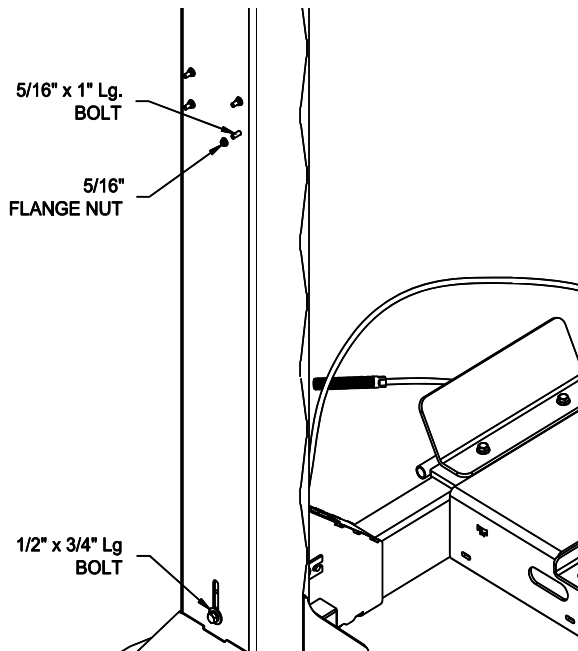

Fig 13 – Power Unit Mounting Bolts
- 26) **POWER COLUMN ONLY** – Thread the front power side locking ladder jam nut (located under the column top plate) down approximately 1/2". Remove 1/2" x 3/4" lg. lock ladder securing bolt from bottom of column and rock the ladder to one side to allow access to power unit mounting holes and insert two 5/16" x 1" flange head bolts from the inside out and secure with 5/16" flange nut, Fig 13. Shift ladder to opposite side and install remaining two power unit bolts. Reinstall lower ladder bolt.
- 33) Install the power unit and the air button valve assembly on the power column, Figs 13 & 15.